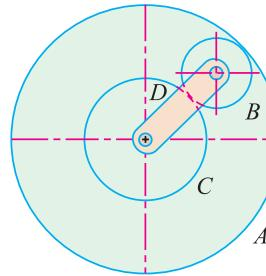

Fig. 34.14.
**Example 34.7.** An epicyclic gear consists of three wheels  $A$ ,  $B$  and  $C$  as shown in Fig. 34.14. The wheel  $A$  has 72 internal teeth,  $C$  has 32 external teeth. The wheel  $B$  gears with both the wheels  $A$  and  $C$  and is carried on an arm  $D$ , which rotates about the centre of wheel  $A$  at 18 r.p.m.
Let  $d_A$ ,  $d_B$  and  $d_C$  be the pitch circle diameters of wheels A, B and C respectively. From the geometry of Fig. 34.14, we find that